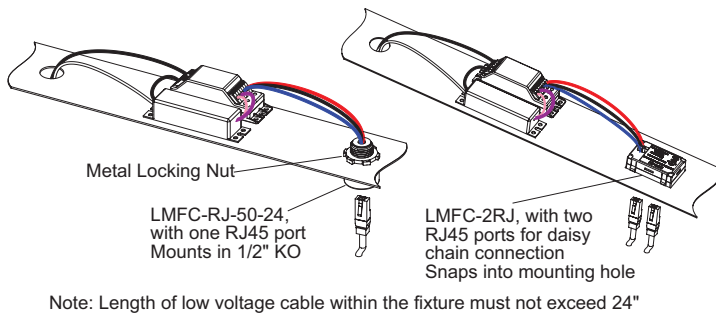

Figure 3. LMFC Cable Connectors mounted to fixture
2. There are two DLM connector options for mounting to the fixture: The LMFC-RJ-50-24 provides a single RJ-45 port, and the LMFC-2RJ provides two RJ-45 ports (Figure 3).